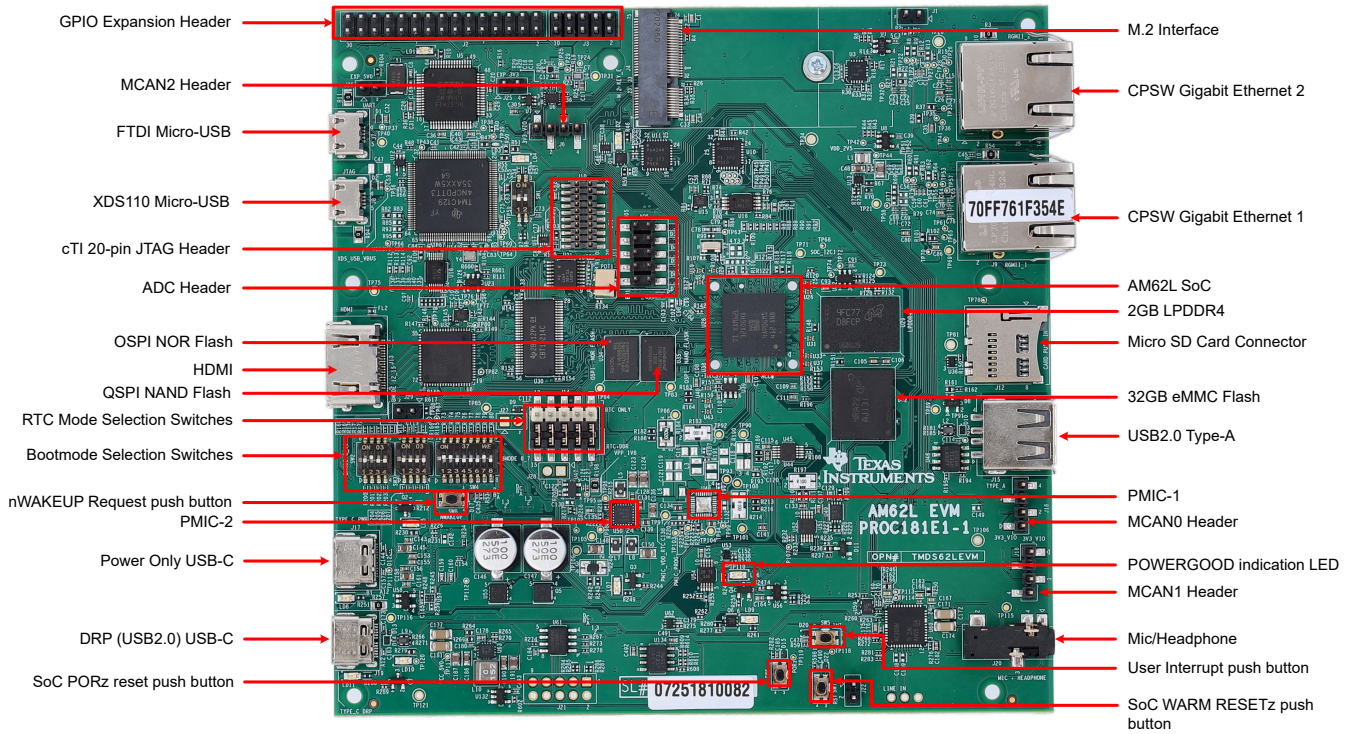

Figure 4-2. TMS62LEVM
- Figure 4-2 shows some important cable connections, ports and switches.